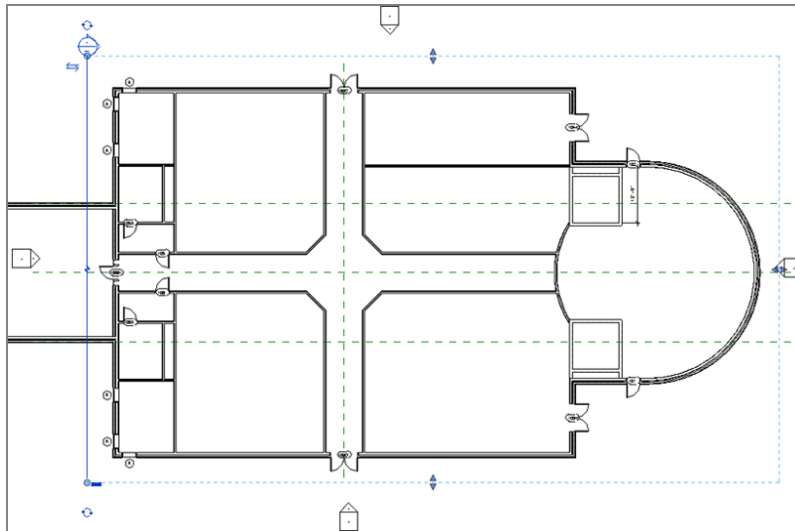

FIGURE 3.60: Adding another section to the model
4. Pick a point above the corridor that connects to the east wing of the building for the section head, and then pick a point well below the bottom of the corridor, as shown in Figure 3.60.